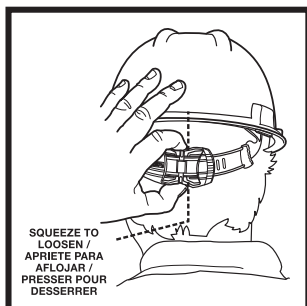

Figure 7
- For 1-TOUCH suspensions, squeeze the lock on the nape strap to loosen (Figure 7).